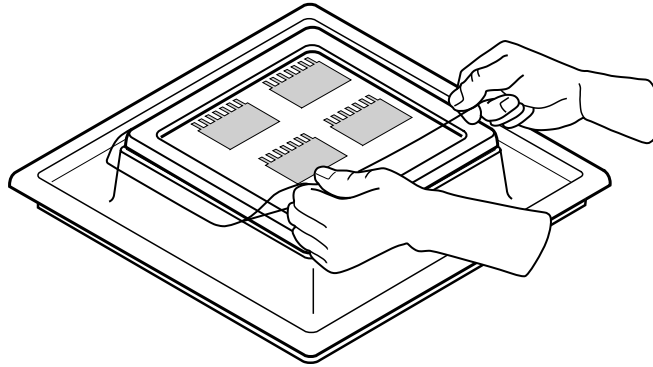

Fig. 5. Adding the top layer of cellophane.
5. Wet a second sheet of cellophane with water. Carefully lay this sheet on top of the gels. Use both hands to hold one end of the cellophane while draping the other end over one edge of the plastic frame. Slowly lower the cellophane to cover the gels and the rest of the frame (Figure. 5). If air bubbles are trapped next to one or more of the gels, raise the cellophane to expose the bubbles and then lower it again. If this does not work, add more water and try again. **It is important to remove the air bubbles trapped between the two sheets of cellophane.** If they migrate next to the gel, they can cause gel cracking.